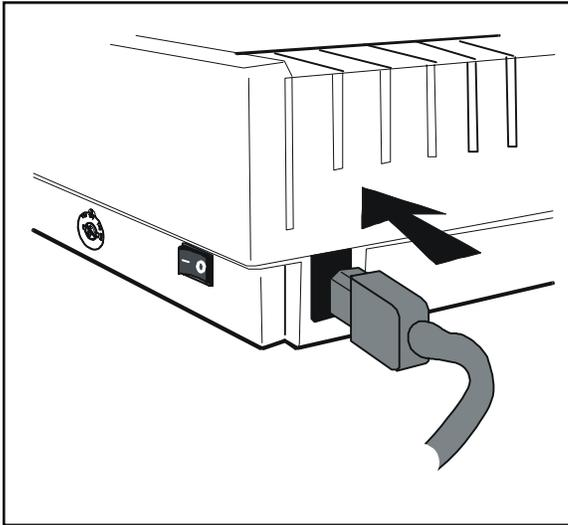

Figure 2-13. Attaching the Power Cord
2. Take the power cord and plug the three-hole connector into the power receptacle at the rear of the printer, as shown in figure 2-13.